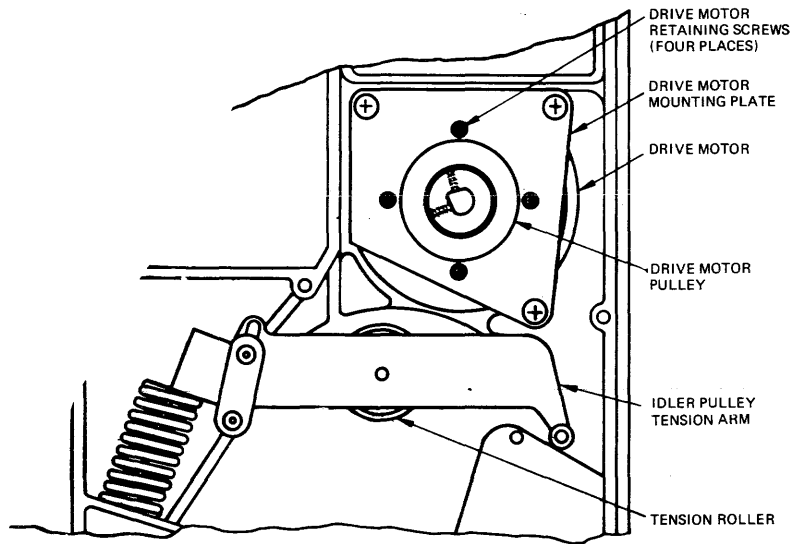
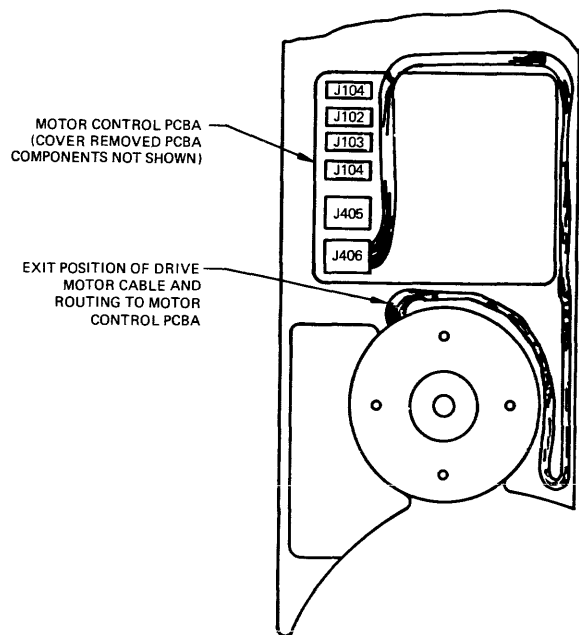

Figure 6-45. Drive Motor Replacement
Figure 6-46. Drive Motor Cable Routing
- (1) Refer to Figure 6-45. Pull the drive forward to the full extent of the slides; remove the dust cover as described in Paragraph 2.2.
- (2) Raise the Servo and Logic PCBAs to the maintenance position.
- (3) Remove the cover from the Motor Control PCBA.
- (4) Carefully remove cable ties from the cable bundle terminating at connectors on the Motor Control PCBA and to the point where wiring to the drive motor breaks out of the cable bundle.
- (5) Disconnect connectors P405 and P406 from the Motor Control PCBA and separate out of the cable to the drive motor (Figure 6-46).
- (6) Remove the belt guard; remove belt from motor pulley only (refer to Paragraph 6.19.1).
- (7) Remove the motor pulley from the motor shaft.
- (8) Use a thin-shank Phillips head screwdriver to remove four motor mounting screws from the motor mounting plate; refer to Figure 6-45.
- (9) Remove the ground wire connected to the top of the drive motor housing.
- (10) Remove the drive motor from the mounting plate and from the drive.
From the top side of the drive, proceed as follows. Refer to Figure 6-45.
- (1) Position the motor so the motor cable exits from the motor frame as shown in Figure 6-46.
- (2) From beneath the drive, install four motor mounting screws through the motor mounting plate. See Figure 6-45. Secure motor to plate.
- (3) Install the drive motor pulley on the motor shaft.
- (4) Replace belt as noted in Paragraph 6.19.2.
- (5) From the top side of the drive, route the motor cable as shown in Figure 6-46. Install connectors P405 and P406 to the Motor Control PCBA.
- (6) Retie the motor cable into the existing cable bundle.
- (7) Secure the motor cable to the motor frame with a tie wrap.
- (8) Replace the ground wire removed in 6.29.1 Step (9).
- (9) Replace the cover on the Motor Control PCBA.
- (10) Lower the Servo and Logic PCBA into operating position.
- (11) Reinstall dust cover and return drive to enclosure.